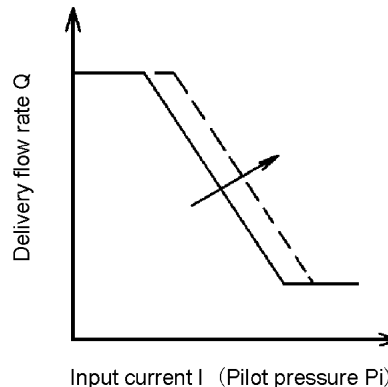

Fig.1-20 Adjusting the flow control
Adjust them by loosening nut (801) and socket screw (924) (or loosening it). Socket screw causes the control chart to move to the right as shown in Fig.1-20. Socket screw raises the flow control start pilot pressure. And the delivery rate increases.